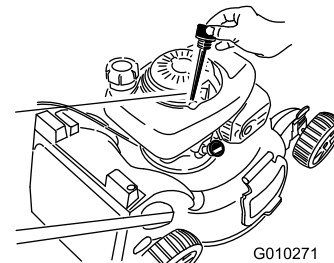

Figure 37
6. Remove the dipstick from the oil-fill tube (Figure 37).